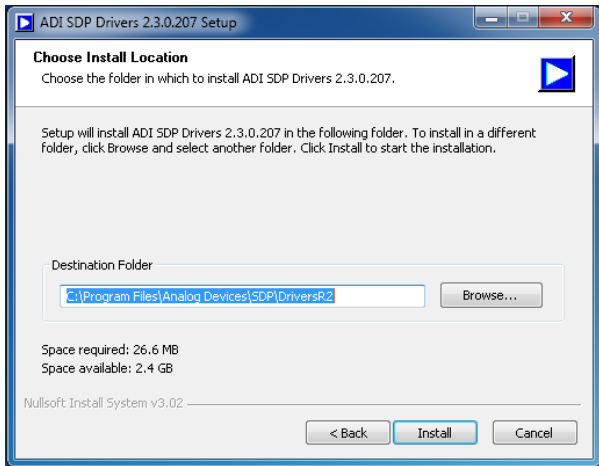

Figure 13. Choose Install Location
- Choose the destination folder for the ADI SDP drivers and click **Install**. The default folder is shown in Figure 13.